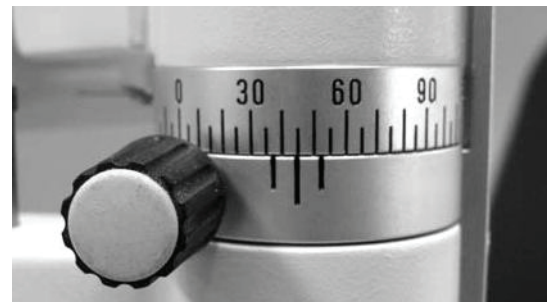

Figure IN-6 Illumination Angle Scale
13. The illumination angle is indicated on the Illumination Angle Scale on the slit lamp arm. Refer to figure IN-6.